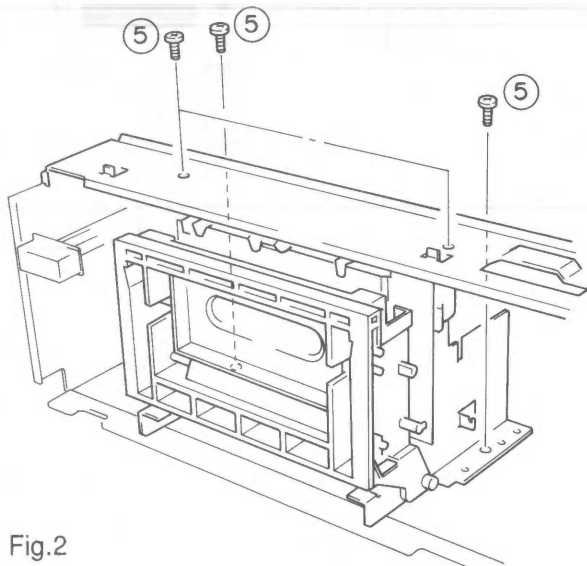

Fig.2
- a. Remove 4 screws (⑤) in fig. 2.